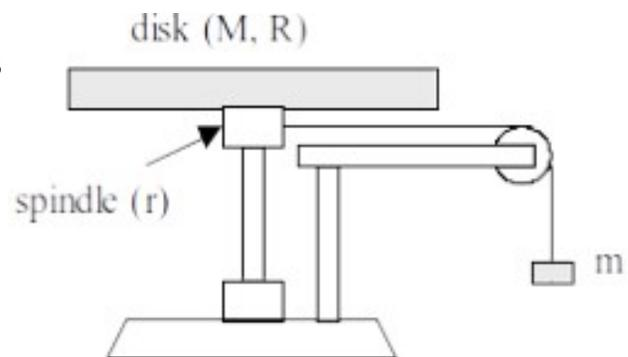

Fig 1
2. In the Fig 1, a disk is shown on the platform. If the disk is replaced by a hoop (hollow disk) of the same mass  $M$  and radius  $R$ , describe how the acceleration of the mass  $m$  would be effected